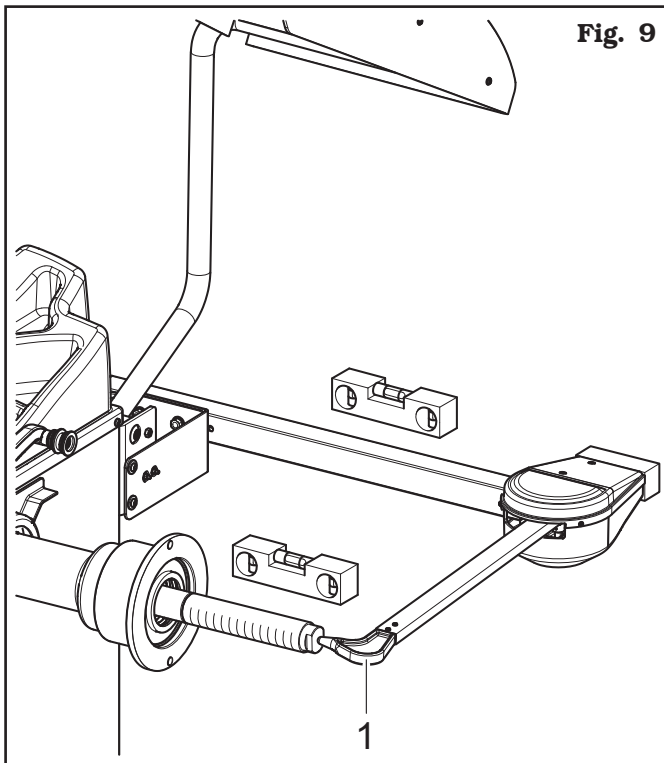

Fig. 9
Lock the gauge arm (**Fig. 8 ref. 3**) to the brackets (**Fig. 8 ref. 2-4**) using the 2 screws (**Fig. 8 ref. 5**), the washers (**Fig. 8 ref. 6**) and the nuts (**Fig. 8 ref. 7**), so that the mandrel and the gauge arm are levelled (see **Fig. 9**).
3. Complete the assembly making sure the gauge tip (**Fig. 9 ref. 1**) is positioned in the middle of the mandrel.